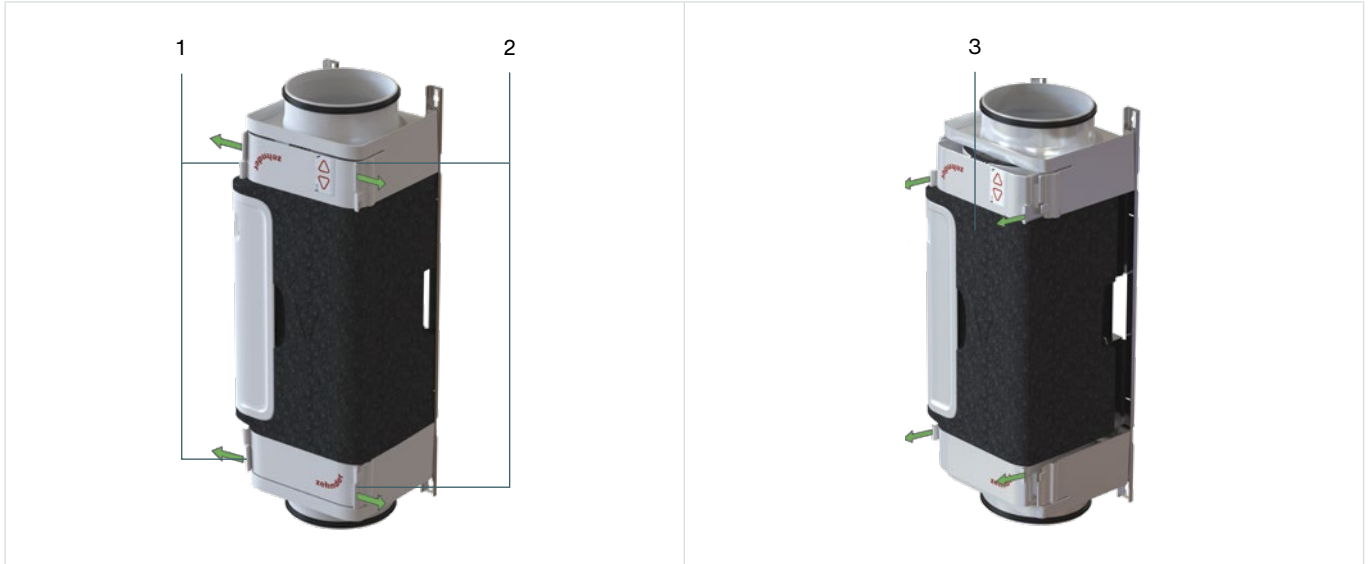

Fig. 5.2 - Removing VM interior from VM frame
1. Loosen the clips (Fig. 5.2, pos. 1 and 2) of the VM-interior.
2. Remove the VM-interior (Fig. 5.2, pos. 3) straight (perpendicular) out of the VM frame.
4. Check whether all 4 clips (Fig. 5.2, pos. 1 en 2) are clicked tight properly.